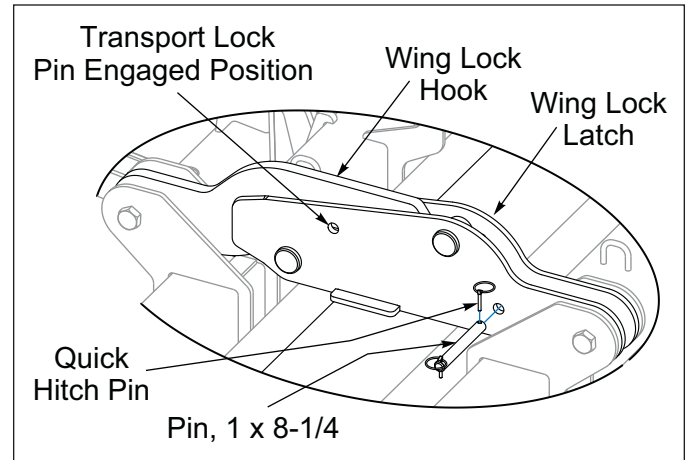

Figure 3-22: Wing Fold Lock Transport Lock Stored
- j. Make sure Telescoping Hitch and Wing Fold Lock Transport Lock Pins are installed and the Rockshaft and Seeder Unit Lift Hydraulic Transport Locks are engaged. Do Not depend solely on implement hydraulics for transport. **See Figures 3-22 and 3-23.**